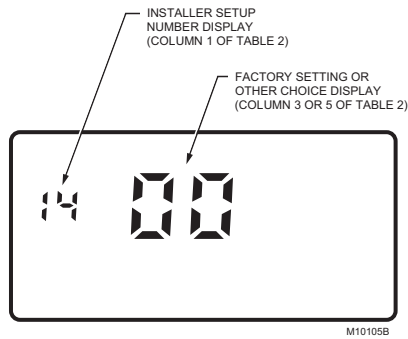

Fig. 11. Display of Installer Setup number and setting.
- To enter the Installer Setup, press and hold the information i key with the increase ▲ and decrease ▼ keys until the first number is displayed. All display segments appear for approximately three seconds before the number is displayed. See Fig. 11 and 12.
Press and hold the increase ▲ and decrease ▼ keys at the same time until two zeros (00) appear. All segments of the LCD are displayed before 00 appears. See Fig. 11 and 12.